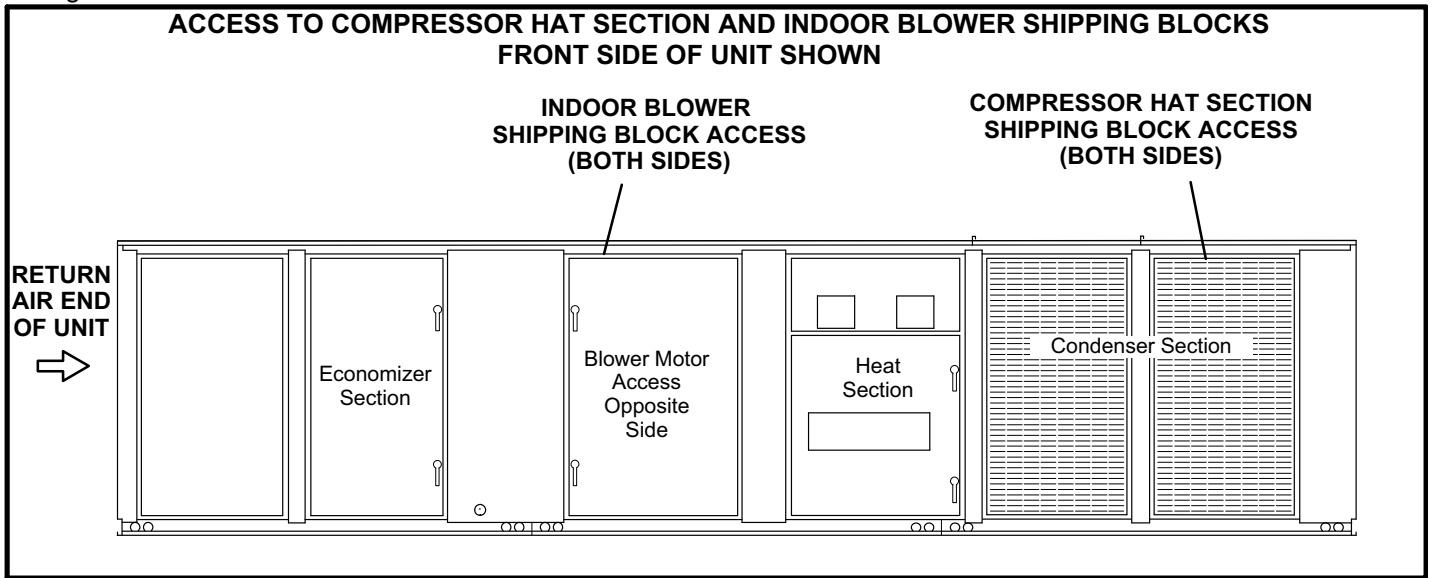

FIGURE 4
- 1- Remove screws and open front and back hinged condenser access panels. See figure 4 for panel location.
- 1- Open front and back blower access panels. See figure 4 for panel location.
1- Open access panels on return end end of unit. See figure 4.